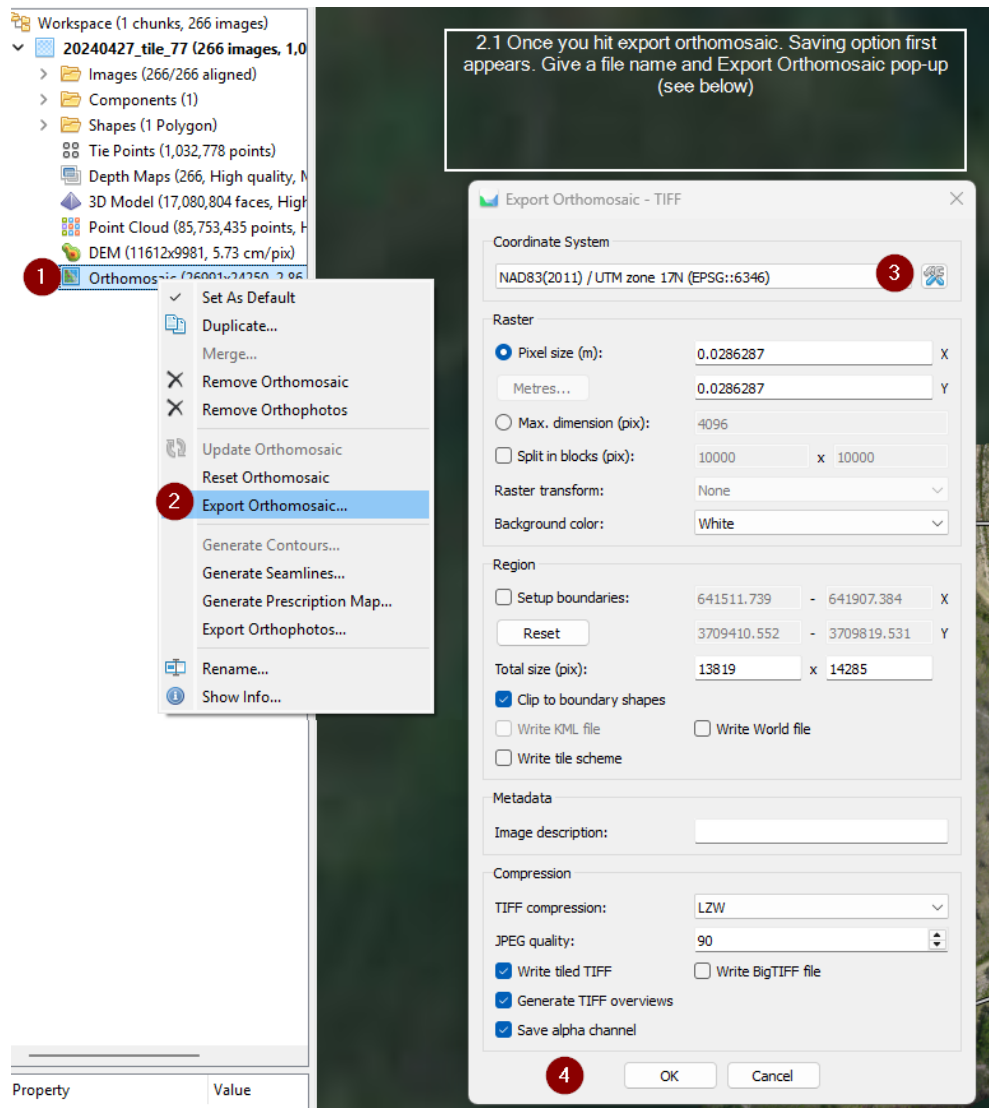

Figure 14: Export Ortho mosaic as a tiff file.
3. In the Export Orthomosaic dialog box, specify the coordinate system for the Orthomosaic to be saved in (NAD83(2011) UTM Zone 17N) (#3 in Figure 14).